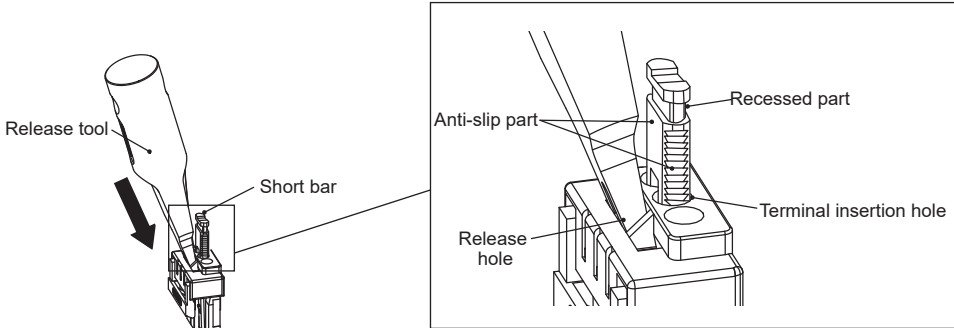

Fig 1: Removing the short bar from the terminal block
- (1) Hold the release tool at an angle and insert it into the release hole all the way.
- (2) With the release tool still inserted into the release hole, grip the anti-slip part or recessed part of short bar with the finger and withdraw the short bar from the terminal insertion hole. (fig 1)